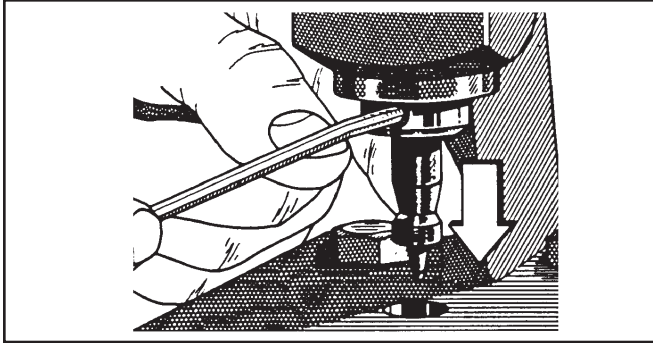

Figure 16. Removing the Punch
1. Remove the punch by loosening the set screw (Figure 16).